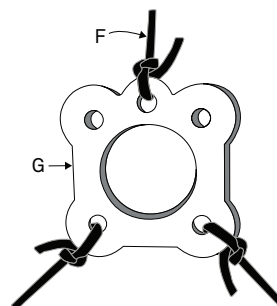

Figure 3 Guy rope (F) tied to guy rope ring (G)
1. Slip the guy rope ring (G) over the mast (E) and slide it down until it sits on top of the locking lever (H).
2. Cut the length of guy rope (F) into three equal lengths of approximately 2.54 m (8.33 ft).
3. Tie each length of guy rope (F) to a hole in the guy rope ring (G) as shown in Figure 3.